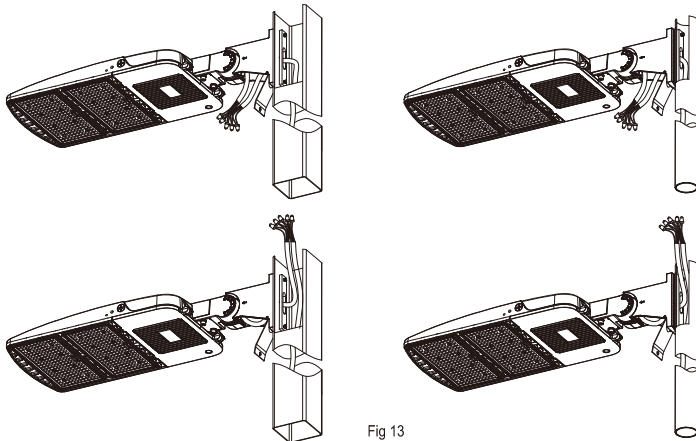

Fig 13
Step 6 : 1. Pass the fixture's AC input wires through pole, pull them out together the pole-wires for connection, as fig 13;